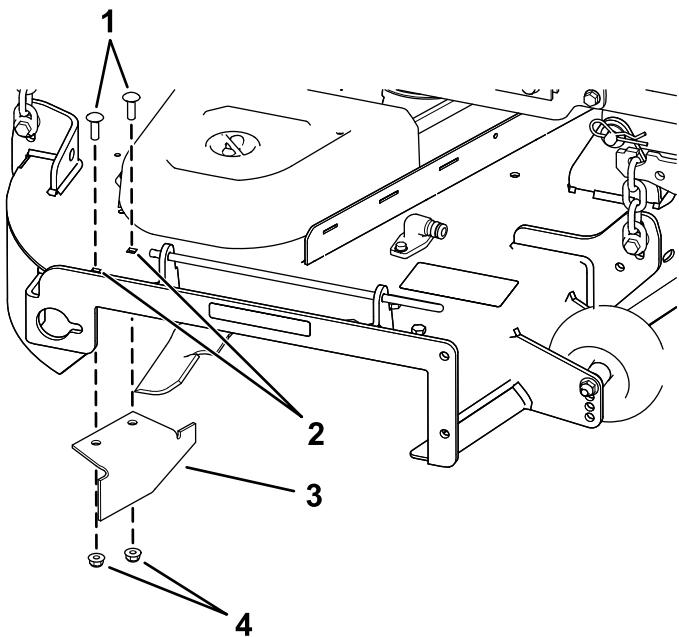

Figure 20
- 14. Locate the cutoff baffle in the loose parts bag, remove the fasteners at the rear holes of the discharge plate, and install the baffle at the side-discharge opening on the mower deck (Figure 20).